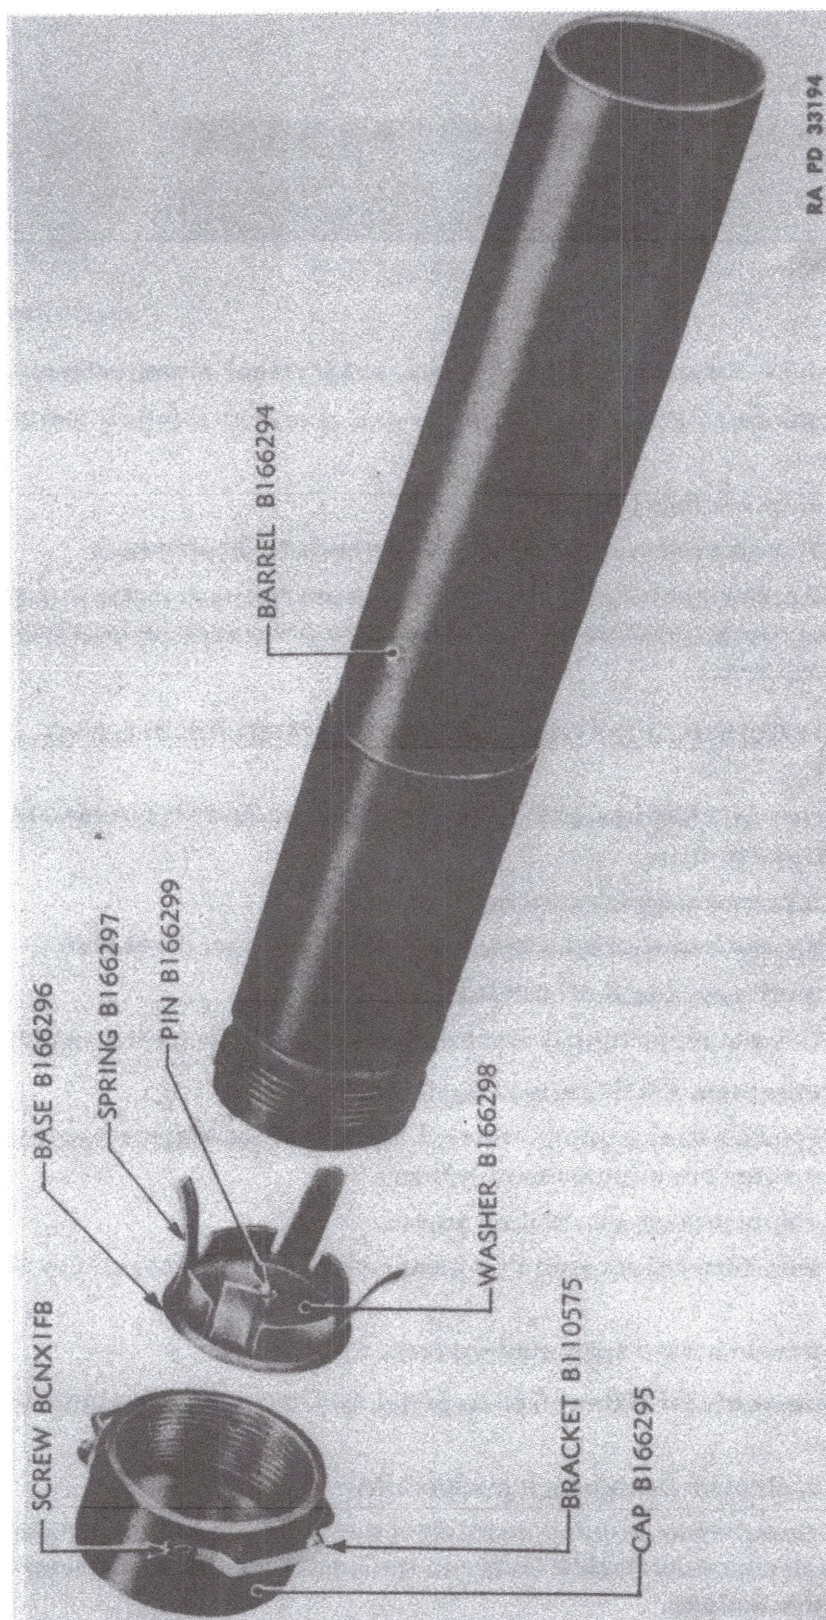

Figure 15 — Projector, Signal, Ground, M4 (Early Manufacture)
(1) Replace firing pin in base and screw in as far as possible.
(2) Replace ball, spring, and projector screw. Make certain screw-head is up tight.
(3) Screw barrel firmly into base.
7. GROUND SIGNAL PROJECTOR M4 (figs. 15 and 16).**a. Disassembly Of Projector.**